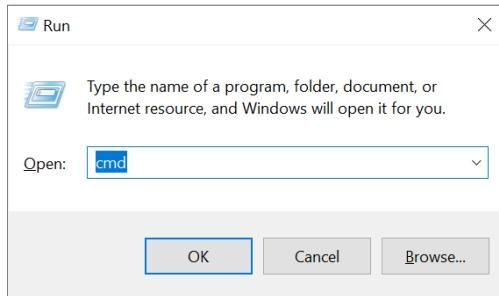
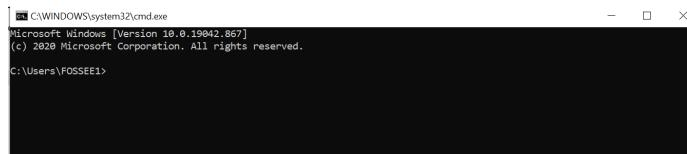

Figure 3.7: Launching the Command Prompt on Windows
Figure 3.8: Command Prompt on Windows
1. Launch the Command Prompt. Press the Windows key+R together. A window, as shown in Fig. 3.7 appears. In the text box adjacent to Open, type cmd, and press Enter. The Command Prompt, as shown in Fig. 3.8 appears. By default, it points to the home directory.
1. Launch the Command Prompt, as shown in Fig. 3.7.